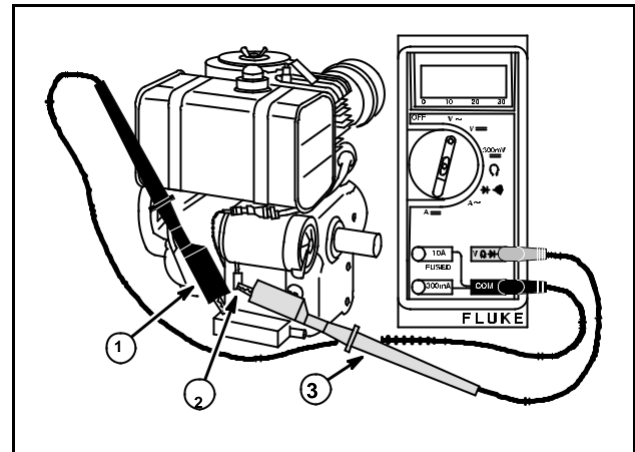

Fig. 18
1. Insert RED test lead (3) into $V \Omega \rightarrow$ receptacle in meter.
2. Insert BLACK test (1) lead into COM receptacle in meter.
4. Attach RED test lead clip to AC output terminal (2), Fig. 18, Typical.